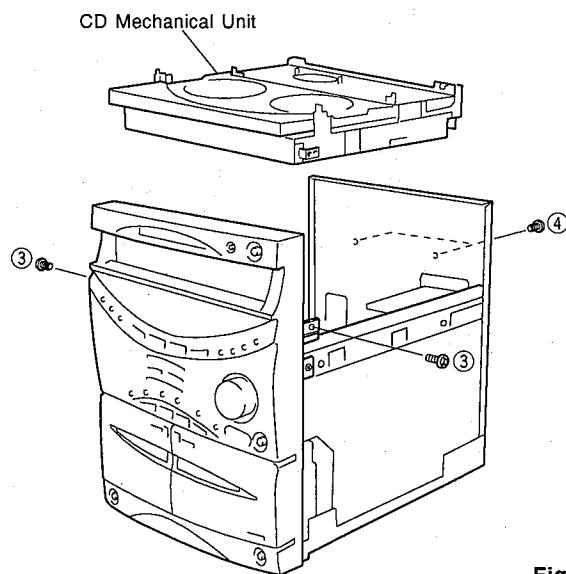

Fig. 3
- Remove 2 screws (③) and 2 screws (④), and then remove the CD Mechanical Unit as shown in Fig. 3.